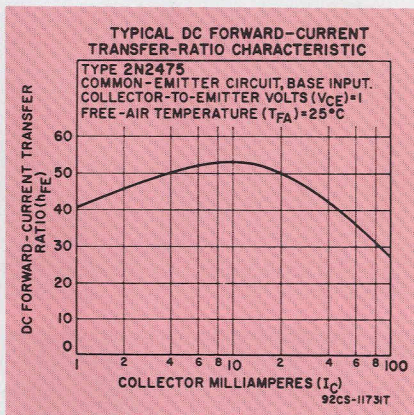

Figure 1: DC beta curve for the RCA-2N2475 silicon n-p-n epitaxial planar transistor. Note how beta varies with level of collector current.
1. *The collector current level has a direct effect upon beta* — whether the transistor is tested in or out of circuit. Shown in Figure 1 is a beta curve for the RCA-2N2475 transistor. This curve illustrates how beta for this transistor type can vary from approximately 53 to 28 as the collector current is adjusted from 1 to 100 milliamperes. The published data for most transistors denotes the "DC beta" for specific conditions of DC voltage and temperature. The practical significance this characteristic has to troubleshooting is this: a single level of collector current will not provide an adequate beta measurement for all types of transistors. Therefore, a transistor tester which provides for setting the collector current over a wide range of values will be better able to test diverse transistor types, such as small-signal RF and high-power audio transistors.